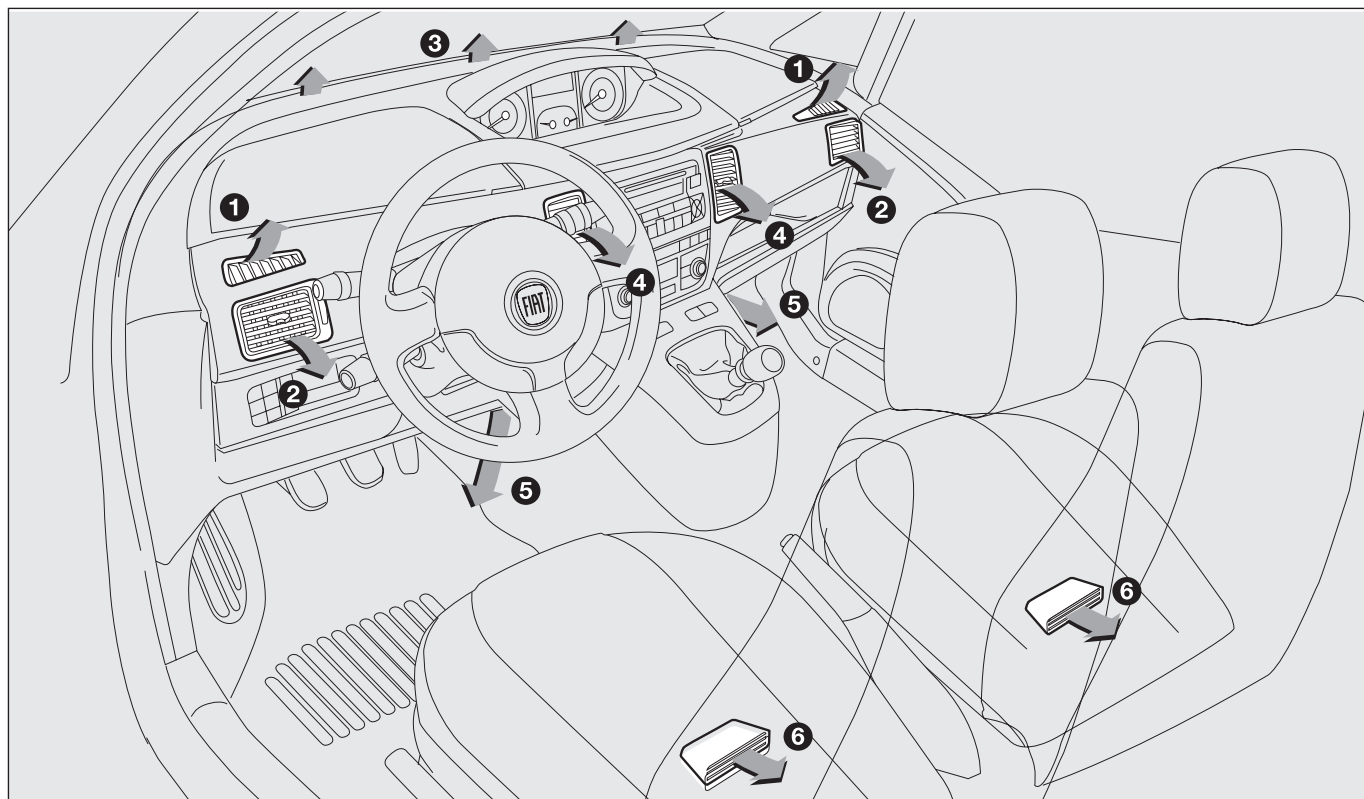

fig. 57
-  air from central vents and side vents 2 and 4 **fig. 57**;
-  air from central side vents 2 and 4 and downward vents 5 and 6 **fig. 57** (bi-level function);
-  air downwards (5) and (6) **fig. 57**;
-  air downwards (5) and (6); and towards the windscreen (3) at the same time **fig. 57**;
-  for demisting and defrosting the windscreen (3) and the front side windows (1) **fig. 57**.
- ☐ fully open the central (4) and side (2) air vents **fig. 57**;
- air from central vents and side vents (2) and (4) **fig. 57**;
- air from central side vents (2) and (4) and downward vents (5) and (6) **fig. 57** (bi-level function);
- air downwards (5) and (6) **fig. 57**;
- air downwards (5) and (6); and towards the windscreen (3) at the same time **fig. 57**;
- for demisting and defrosting the windscreen (3) and the front side windows (1) **fig. 57**.